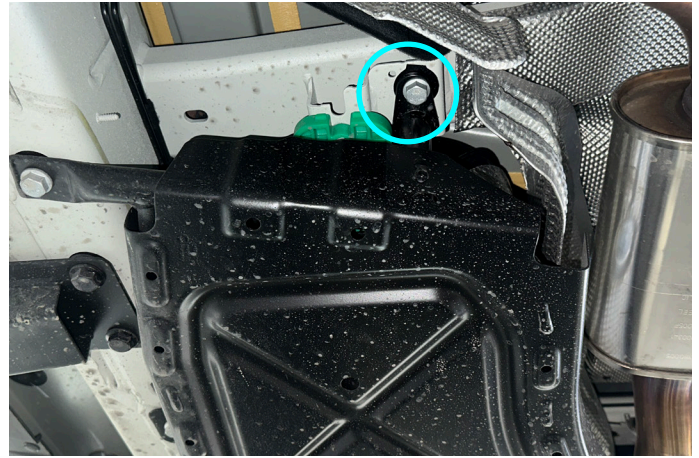

Fig. 2
2. Loosen, but do not remove, front factory bolt as shown in fig. 2